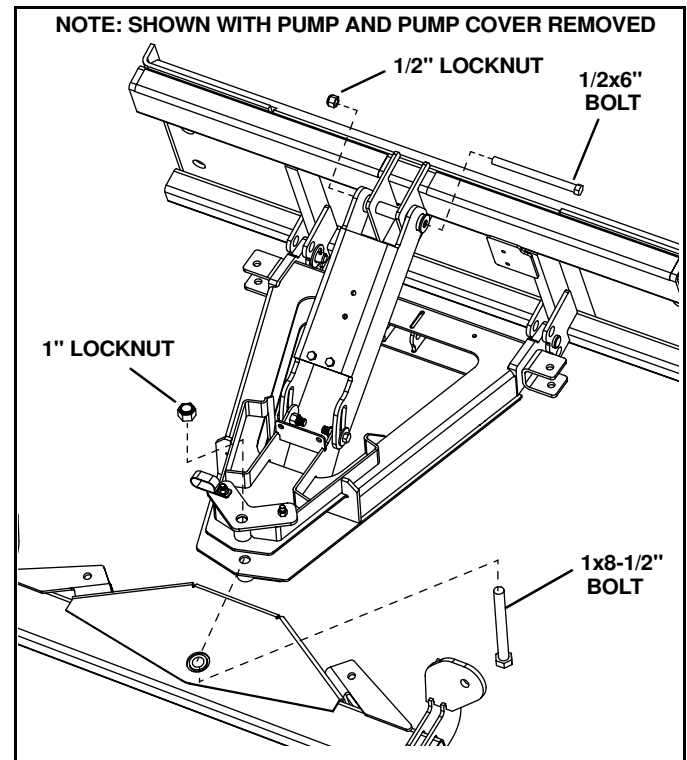

Figure 2-9
1. Install A-frame into Universal Skid Steer Adapter into center hole with 1x8-12" bolt and 1" locknut. (See Figure 2-9)
2. Connect slider link to upper mount holes in the Universal Adapter Plate with 1/2x6" bolt and 1/2" locknut. (See Figure 2-9)